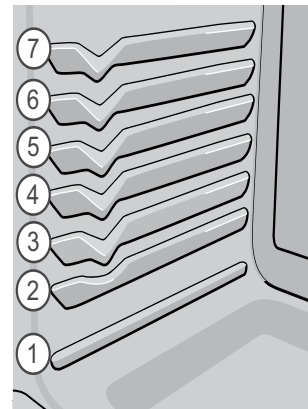

Fig. 1
- For best results when baking cakes using two oven racks, place racks in positions 2 and 5 (see Figure 1).